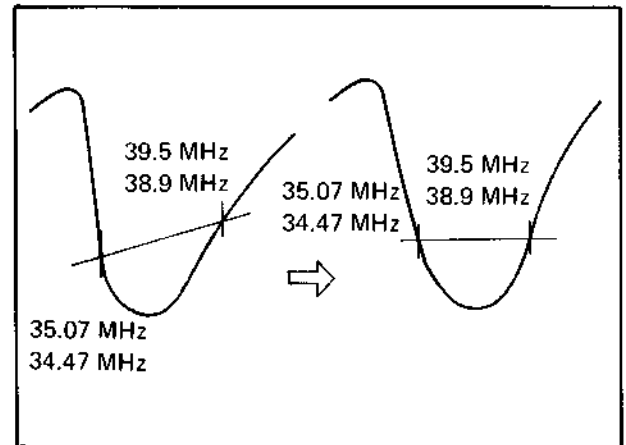

Fig. 6-48
9. Adjust the core of T104 so that the waveform has an equal height at the 35.07 MHz and 39.5 MHz (HR-3330EK), 34.47 MHz and 38.9 MHz (HR-3330EG) markers as shown in Fig. 6-48.